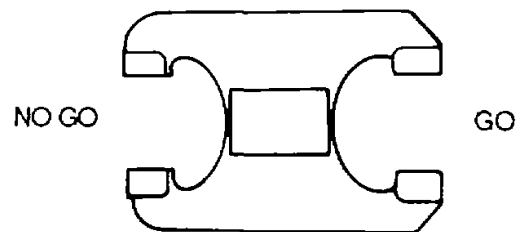
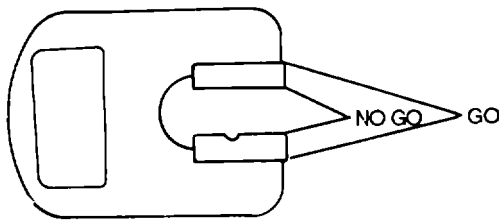

Figure 3-60. Solid Nonadjustable Snap Gauge
Figure 3-61. Progressive Snap Gauge
(1) *Nonadjustable*. The nonadjustable type is a solid construction, having two gauging members, GO and NO GO, as shown in figure 3-60. The part to be inspected is first tried on the GO side and then the gauge is reversed and the part is tried on the NO GO side. Some solid snap gauges, shown in figure 3-61, have combined gauging members in the same set of jaws as shown above, known as a progressive snap gauge. The outer member gauges the GO dimension, and the inner member the NO GO dimension.